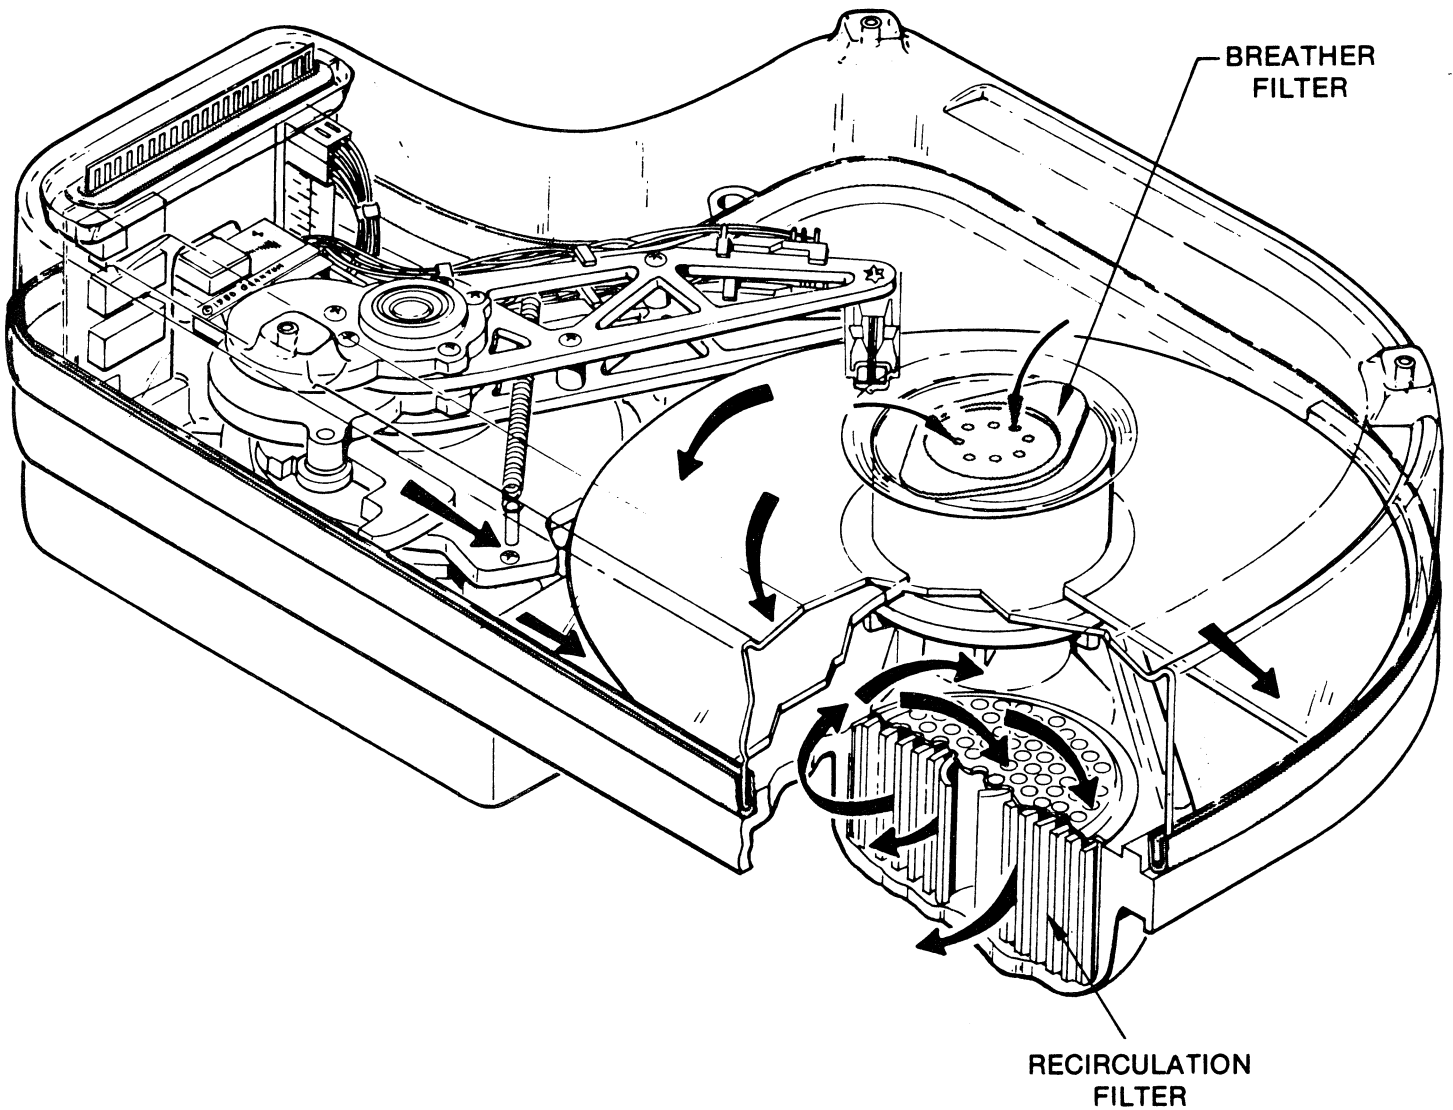

Figure 4. Air Filtration System
2.6 Air Filtration System (Fig. 4)